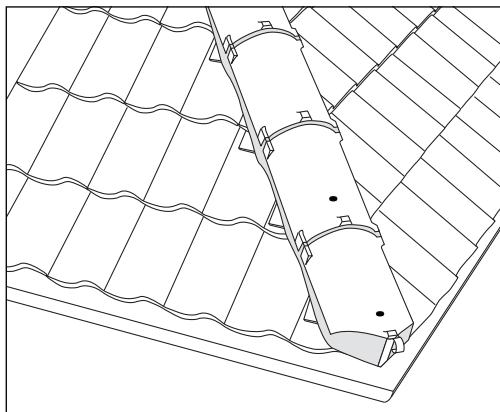

Fig 45 - Bedded hip
- 3 Fix a hip iron at the base of the hip rafter and shape the first hip tile at the front to align with the tiling at the eaves. Mitre the junction of the hip and ridge, using a concealed lead saddle in exposed locations (Fig 45).